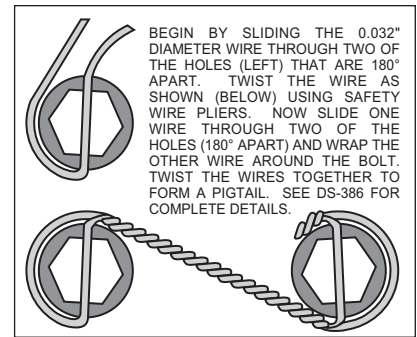

Figure 3. Safety Wire Diagram
- The rotor (3) has two sides. A flat side and an inset side. Bolt hat (2) to flat side of rotor (3) using lock washers (4) and bolts (5). Torque bolts (5) to 180 in-lb. Safety wire bolts (5) using standard 0.032 inch diameter stainless steel safety wire as shown in Figure 3. Please refer to Wilwood's data sheet DS-386 (available at www.wilwood.com/pdf/ds386.pdf) for complete safety wire installation instructions.
- Align the correct hole pattern in the hat (2) with the stud pattern on the axle flange. **NOTE:** Some OEM and after market axles come with stud sizes larger than 0.50" diameter. Verify stud size and have a qualified machine shop drill the hats to the correct size. Slide the hat/rotor assembly (2 and 3) over the wheel studs and against the axle flange face.